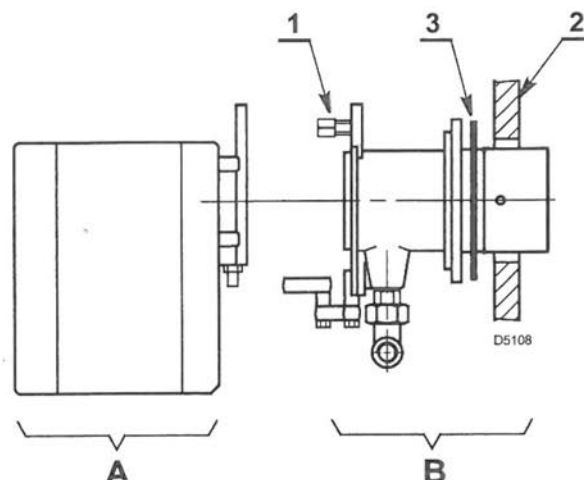

Fig. 4
Separate the combustion head of the burner from the chassis (A)(Fig. 4) by removing the locknut (1). Install the combustion head into the boiler.
*Typical insertion depth*, the front edge of the combustion head is flush with the inside surface of the appliance mounting surface (2).